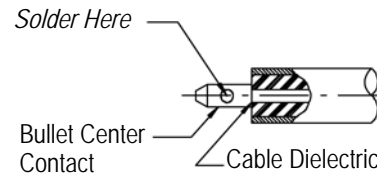

Figure 3
- Insert the center conductor into the bullet center contact until it rests firmly against the cable dielectric. Solder the bullet center contact. Remove excess solder. See Figure 3.